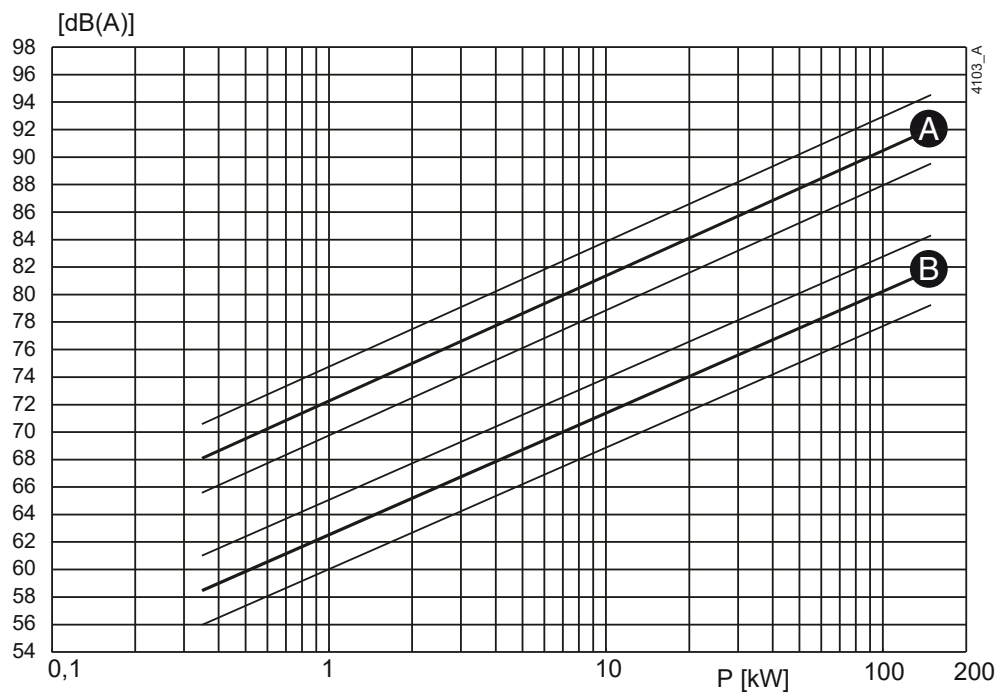
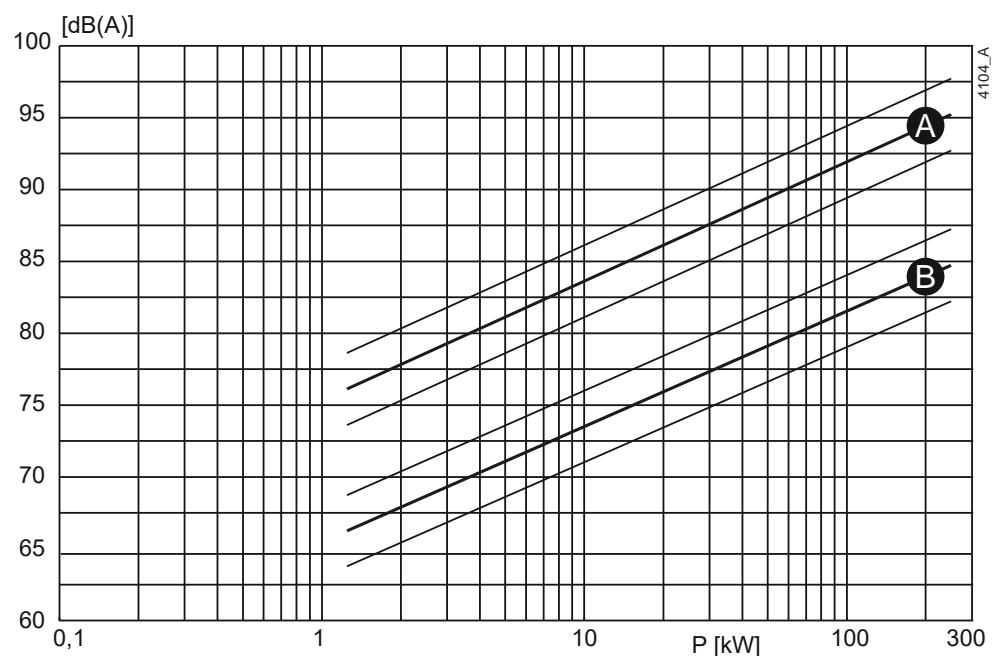

Figure 41: Noise level as function of pump power [kW] at 1450 min^{-1}
Figure 42: Noise level as function of pump power [kW] at 2900 min^{-1}
- 1 Determine the noise level (L1) of the pump, see figure 41 or figure 42.